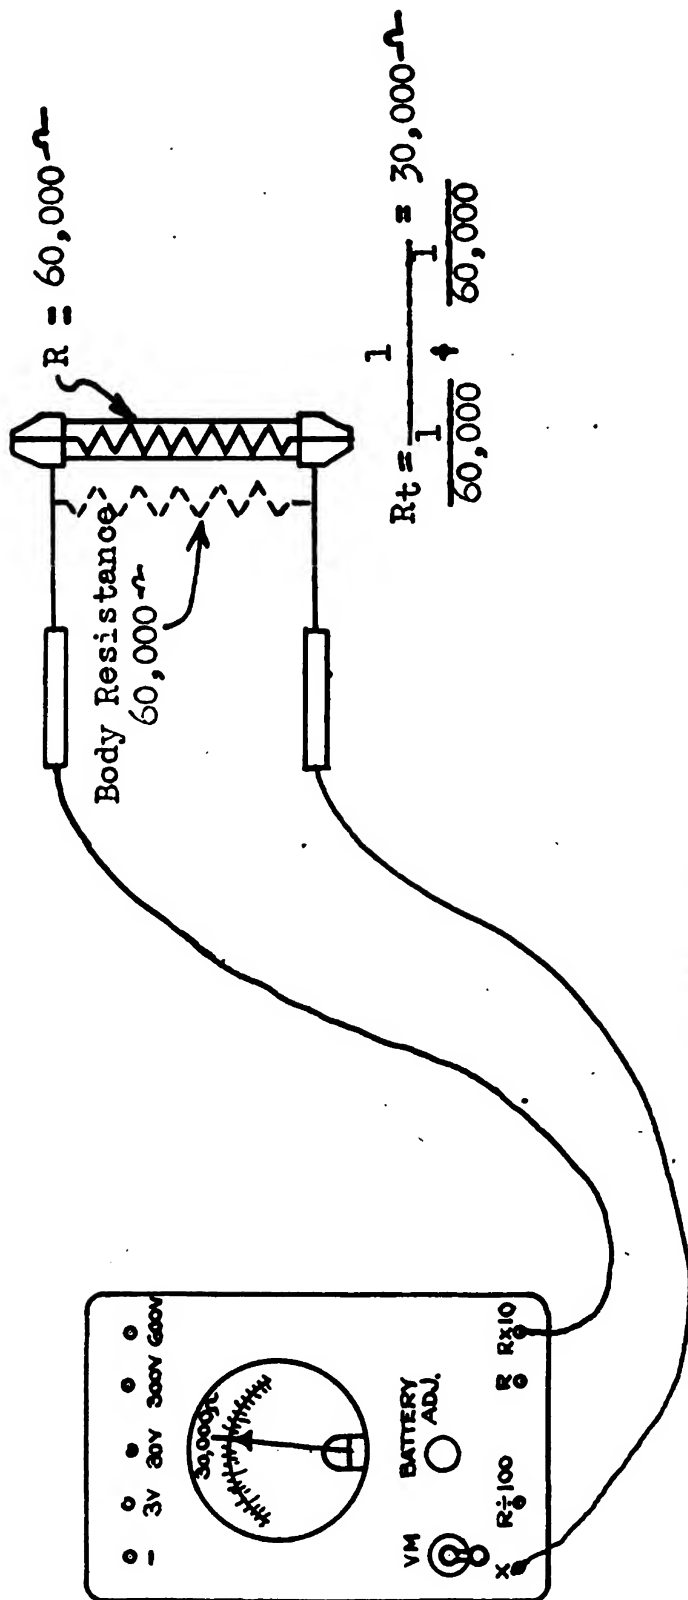

FIGURE 68.—Effect of touching test probe.
*e.* Keep the fingers off the metal ends of the test prods when testing either voltage or resistance. The resistance of the human body when placed in parallel with the resistor to be measured may seriously affect the reading obtained, especially if a high resistance is being measured. For instance when measuring a 60,000 ohm resistor the ohmmeter might indicate only 30,000 ohms if the fingers were touching the metal tips. Figure 68 shows the reason for this.